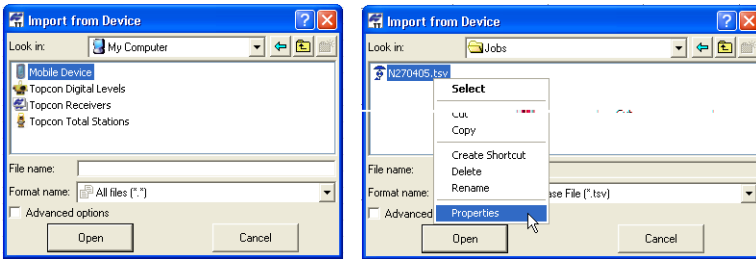

Figure 3-38. Connected Device(s) and Device Properties
3. Once Microsoft ActiveSync establishes a connection with the controller, double-click **Mobile Device** in the *Import from Device* dialog box (Figure 3-38).